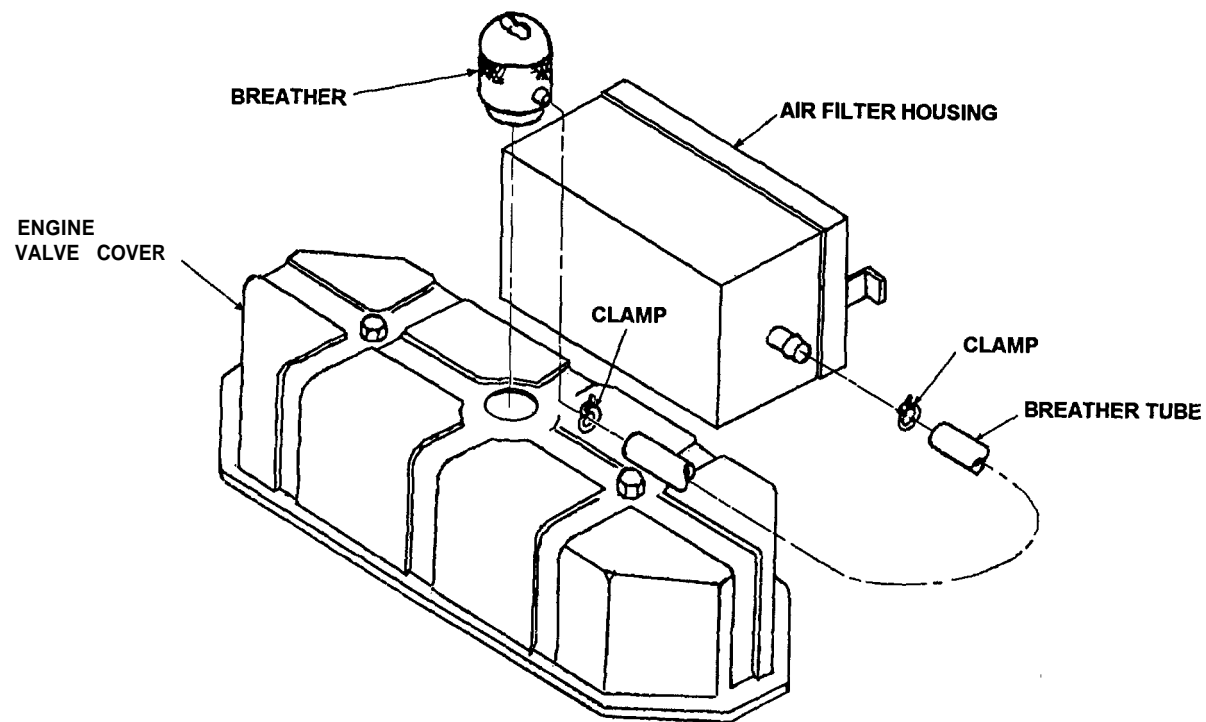

Figure 4-34. Breather and Breather Tube, Exploded View
- (1) Remove clamps (Figure 4-34) and breather tube.
- (2) Loosen wing nut on breather, unscrew slotted stud and remove breather.
- (1) Install breather and screw on slotted stud (Figure 4-34).
- (2) Install breather tube and clamps.